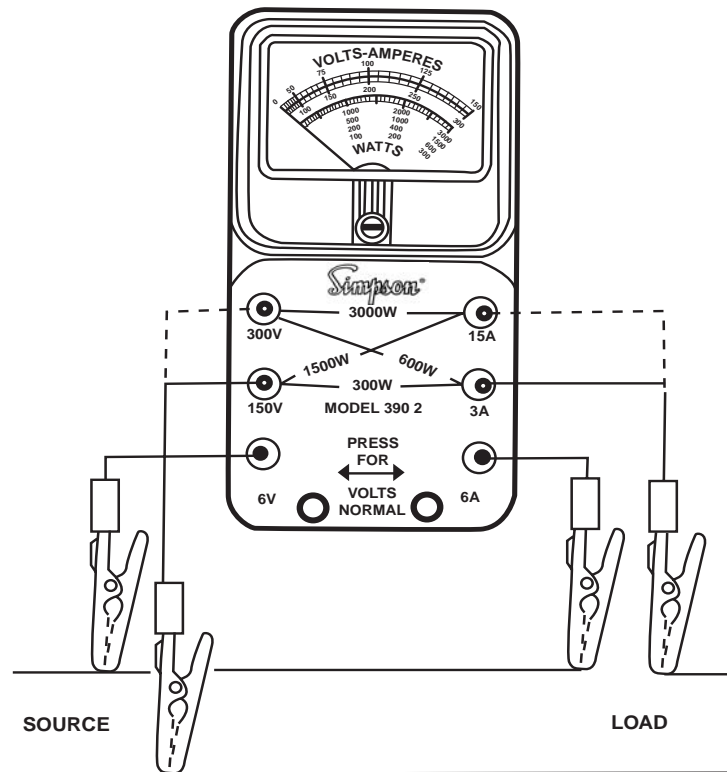

Figure 4.2 Model 390-2 and Special Test Lead Set Application
If unable to use the Break-In Cable Assembly, use the special test lead set. For line voltages up to 150 volts, connect the $\pm V$ and the 150V jacks across the line and the $\pm A$ and the 3A or 15A jacks in series with the load for 300 and 1500 watt ranges respectively. The leads are color coded to match the colored dots of the respective jacks (see Figure 4-2). For line voltages between 150 and 300 volts, connect the $\pm V$ and the 300V jacks across the line, and the $\pm A$ and the 3A or 15A jacks in series with the load for the 600 and 3000 watt ranges respectively.
11. Connect the Model 390-2 as an ammeter in series with the line and the load using the Special Test Lead Set, or as a wattmeter (see Figure 4-2).